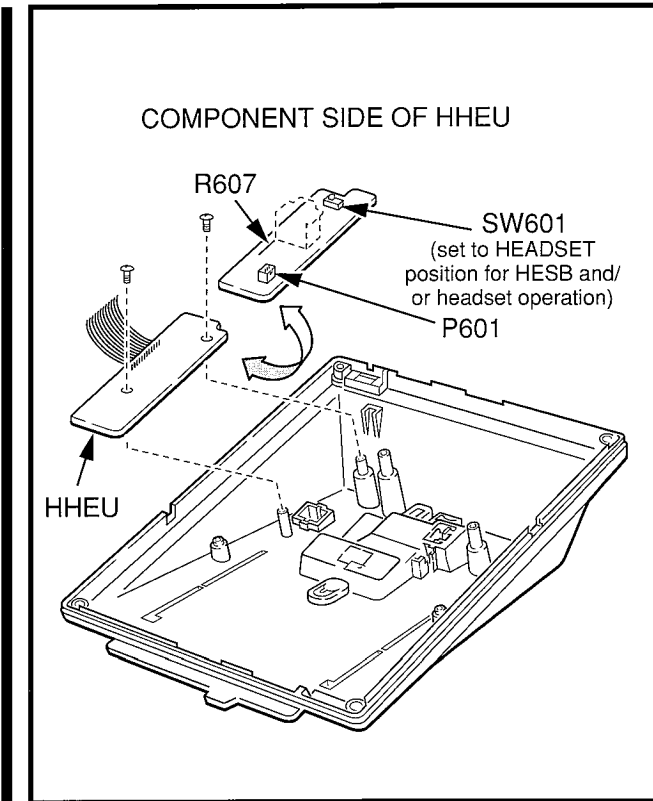

FIGURE 7-2—HHEU INSTALLATION
- 3) On the HHEU, set the **SW601** switch to the Headset position for HESB and/or headset connection (Figure 7-2).
- 4B) For the telephone speaker only (not the headset receiver) to receive OCA, cut one side of the **R607** resistor on the HHEU and then remove the resistor so that no electrical connection exists. (see Figure 7-2).
- 5) Position the HHEU PCB on the standoffs inside the base (Figure 7-2), and secure with the two screws provided.